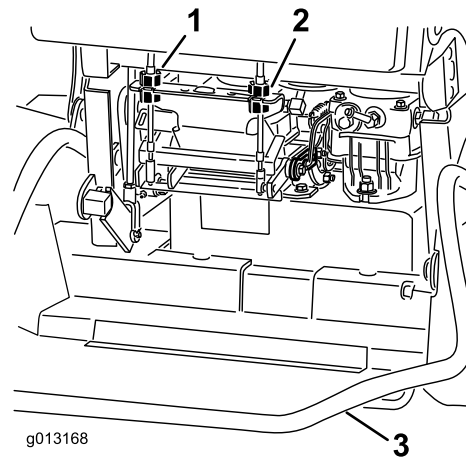

Figure 55
4. Rotate the right cable adjustment to position the right motion control in the center of the control panel neutral lock slot. Then, rotate the left cable adjustment to match the left wheel speed to the previously set right wheel speed. (Figure 55).